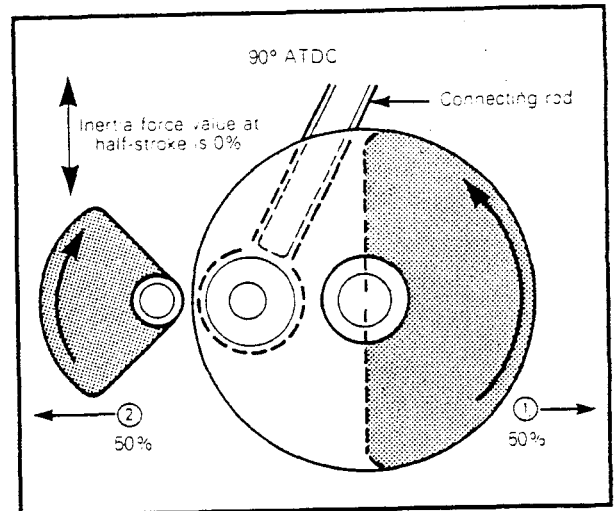

Figure 2-6. Inertia Force Configuration At 1/2 Stroke
4. See Figure 2-6. The crankshaft counterweights' rotation creates a centrifugal force. The opposite rotation of the balancer neutralizes this centrifugal force. The crankshafts' counterweight centrifugal force is cancelled by the balancers' opposite centrifugal force.